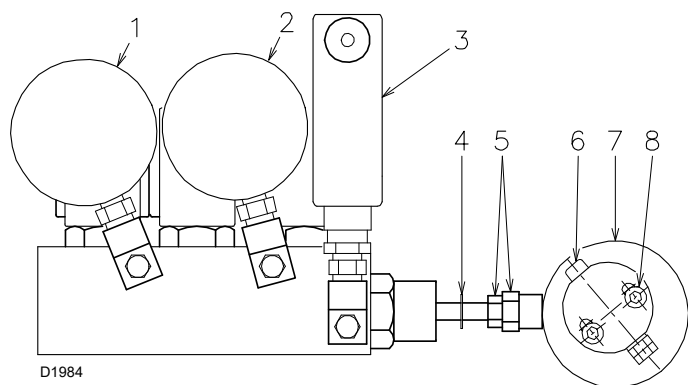
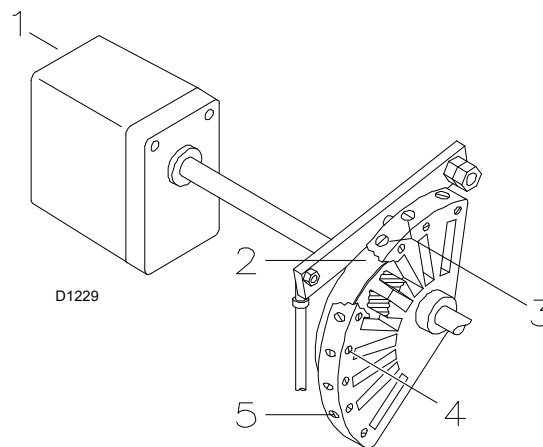

Fig. 30
Fig. 31
Before starting the burner, make sure that air and fuel adjustment devices can be activated; loosen screws 4) of cam 2)(Fig. 31 on page 27), loosen nut and lock nut 5)(Fig. 31 on page 27) and the two screw 8)(Fig. 31 on page 27) of the pressure variator unit and eccentric (Fig. 30 on page 27).
The fuel pressure on the nozzle delivery line is adjusted on the pressure variator unit and displayed on the pressure gauge 1)(Fig. 30).
The fuel pressure on the nozzle return line is adjusted on the pressure variator unit and displayed on the pressure gauge 2)(Fig. 30).
The adjustment of fuel MINIMUM pressure on the nozzle return line is performed only by means of nut 5)(Fig. 30); screw the above-mentioned nut to decrease the pressure and loosen it to increase the pressure.
The adjustment of fuel MAXIMUM pressure on the nozzle return line is performed only by means of screw 6)(Fig. 30) of eccentric 7)(Fig. 30); tighten the above-mentioned screw to increase the pressure and loosen it to decrease the pressure.
Air adjustment is performed by means of the screws 3) of the variable profile cam 2)(Fig. 31), which controls the air damper; tighten the above-mentioned screws to increase the air flow rate and loosen them to decrease it.
Progressively adjust the end profile of cam 2)(Fig. 31) by turning the screws 5)(Fig. 31).
Adjust the fuel pressure on nozzle return line **only by means of nut 5)(Fig. 30)**; in this way it is possible to set the pressure required for start-up and minimum output.
Once the maximum opening of the servomotor has been reached, adjust the fuel pressure on the nozzle return line **using only screw 6)(Fig. 30) of the eccentric**: in this way it is possible to set the pressure required for maximum output.
Tighten the screw 6)(Fig. 30) only until the pressure is increased, so that a variation is ensured throughout the entire rotation angle.
Now lock the nut and the lock nut 5)(Fig. 30) and the two screws 8)(Fig. 30) of the pressure variator unit.
Only after having set minimum and maximum pressure, perform an accurate adjustment of combustion on different modulation positions, only by adjusting the air flow rate using the cam screws 3)(Fig. 31).
Once the combustion adjustment has been completed, lock the screws 4)(Fig. 31) and recheck the ignition: its noise must be equal to the one of the following operation.
- For a correct calibration, the eccentric 7)(Fig. 30 on page 27) must operate on the entire range of travel of the servomotor (20° ÷ 130°): a pressure variation must correspond to each servomotor variation.
- Never drive the variator piston fully home: the stop ring 4)(Fig. 30 on page 27) determines the maximum stroke.